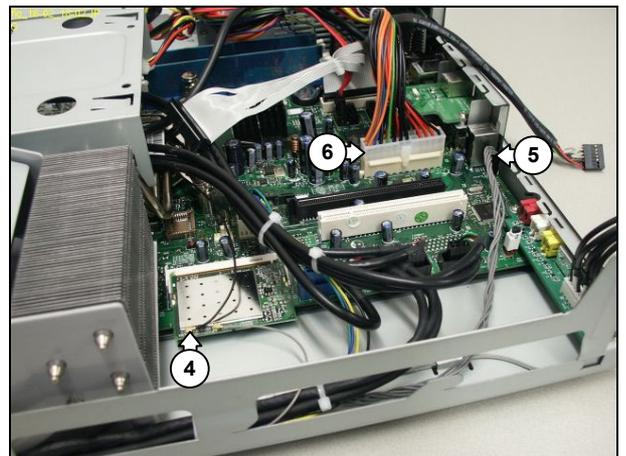

Figure 12.15-2
10. Disconnect the WLAN antenna cables (4) from the WLAN card. See Figure 12.15-2.
11. Disconnect the IR blaster cable (5) from the motherboard. See Figure 12.15-2.
12. Disconnect the PSU main power cable (6) from the motherboard. See Figure 12.15-2.